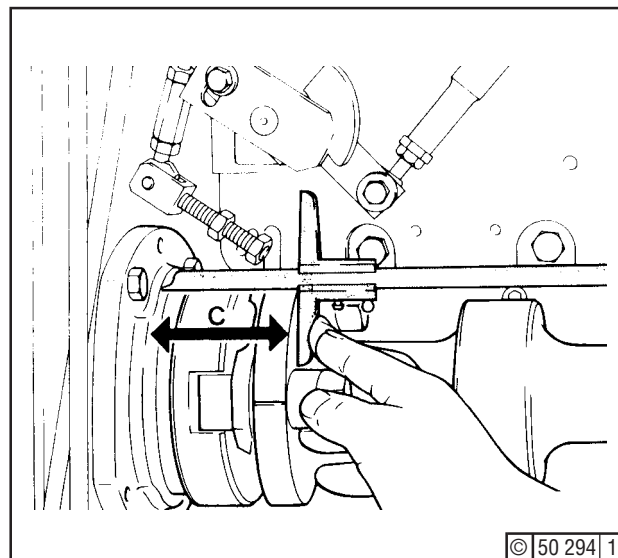

Fig. 7
- Gauge in each end position - Fig. 7.